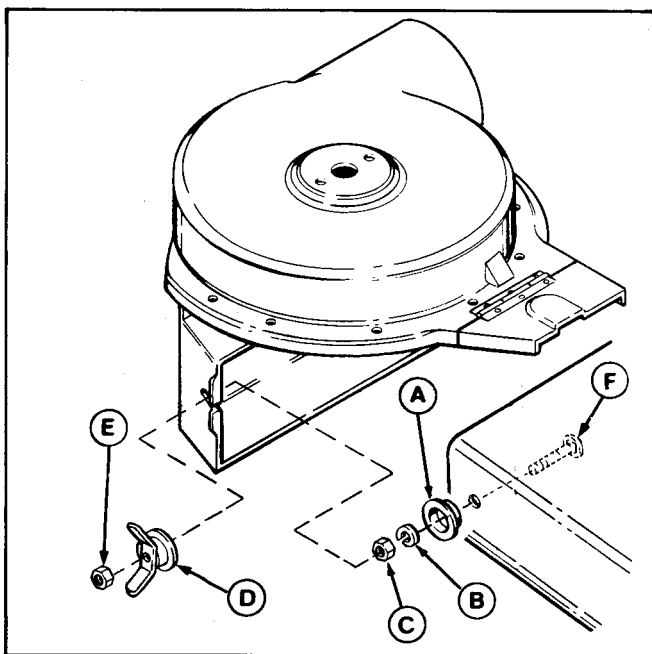

Figure 16.
11. Install wing nut (D, figure 16) as follows:
- b. From inside deck, install new 5/16-18 x 2-1/4 carriage bolt (F, figure 16). Then install the cup (A), 5/16 lockwasher (B), and 5/16 nut (C). Tighten the nut.
- c. Thread the wing nut (D) far enough onto the screw so that the 5/16 locknut (E) can be threaded on flush with the end of screw.